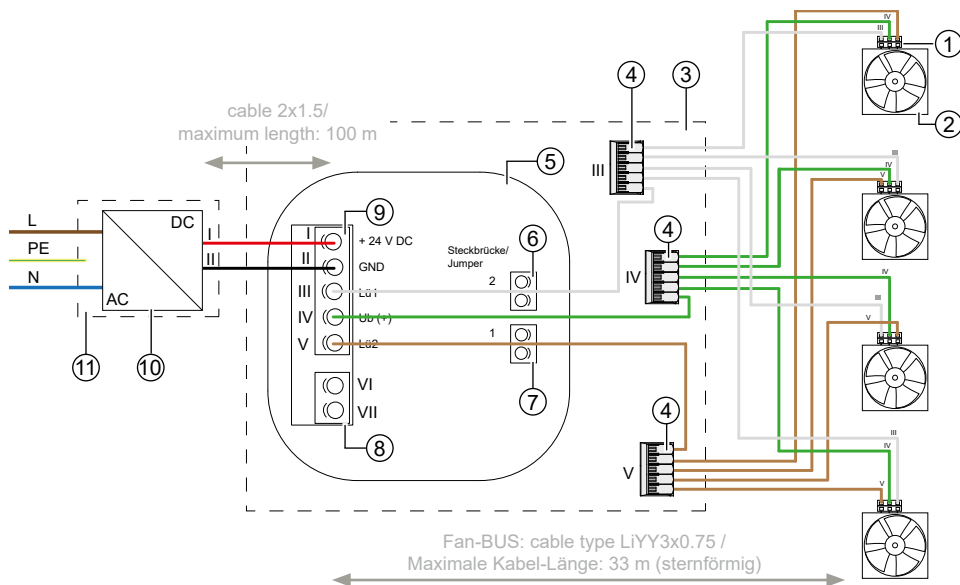

Figure 3: Connection example for controller sMove s4 with cabinet mounted PSU and distribution
| ③ Mounting box | ⑩ Control cabinet PSU NT17-s4 (fig. 3) /